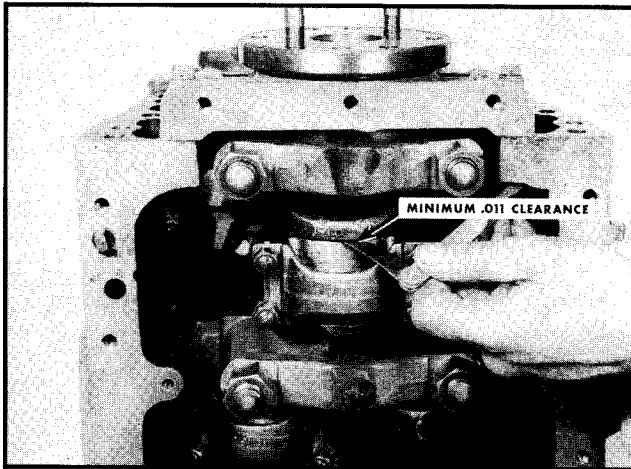

Fig. 12-22. Checking clearance between rod and crank
10. Recheck side clearance on both sides of the assembly and completely around crankshaft journal. In any case it should not be less than .006 inch. Fig. 12-22, Page 12-8.